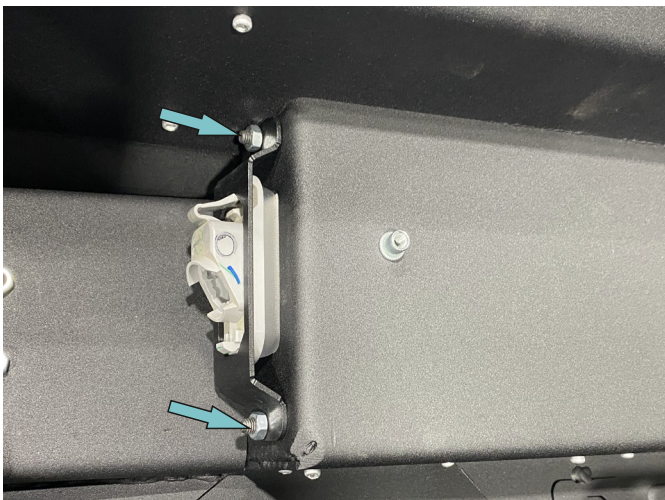

Fig. 15
15. Install license plate light cases into special holes in aluminum bumper body (item 1). Fix brackets (item 3,4) using screws M6x16, washers 6 and nuts M6 (item B, D, F) (Fig.15).